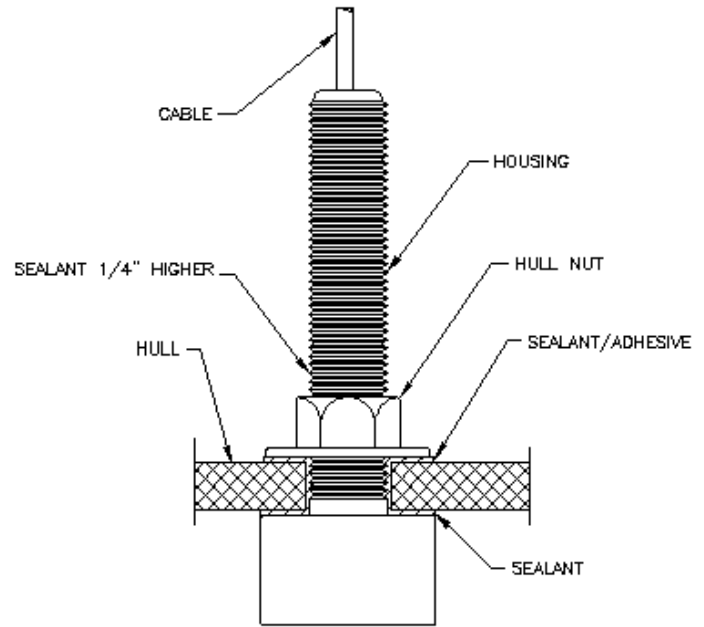

Figure 2.
7. From the inside, thread down the hull nut until it makes contact with either the hull or fairing block, if used. The hull nut should then be tightened to a snug fit using slip joint pliers. Make sure the outer housing does not rotate and disturb the sealant during the tightening of the hull nut, See Figure 2.